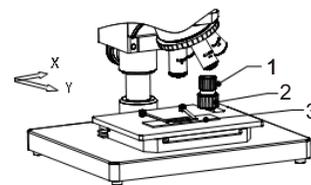

Fig.10
Place the metallurgical specimen or sample 3 on the stage and press with two spring clips. Turn the control knob 2 and 1 to adjust the stage longitudinal (Y) and transverse (X) movement , make the specimen or sample observation area located down the objective, as shown in Fig. 10.
The knob 2 control longitudinal movement, the knob 1 control transverse movement. The stage mobile range is 35mmX30mm for X and Y. As shown fig.10.